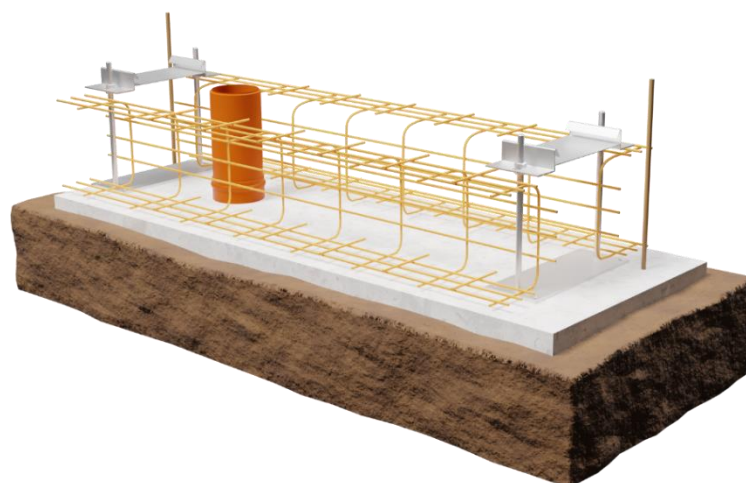

Figure 3
5. The steel reinforcement can then be installed. We recommend connecting the reinforcement to the threaded rods of the support stands to ensure better stability – see **Figure 3**.